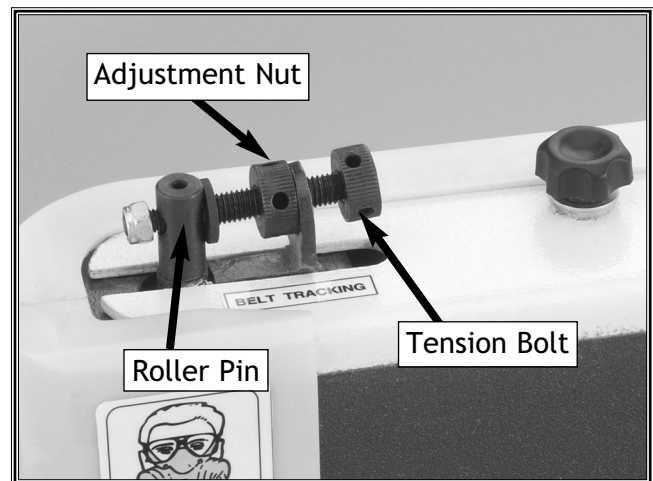

Figure 8. Tracking adjustment system.
3. Loosen the knurled adjustment nut away from the roller pin, shown in **Figure 8**.